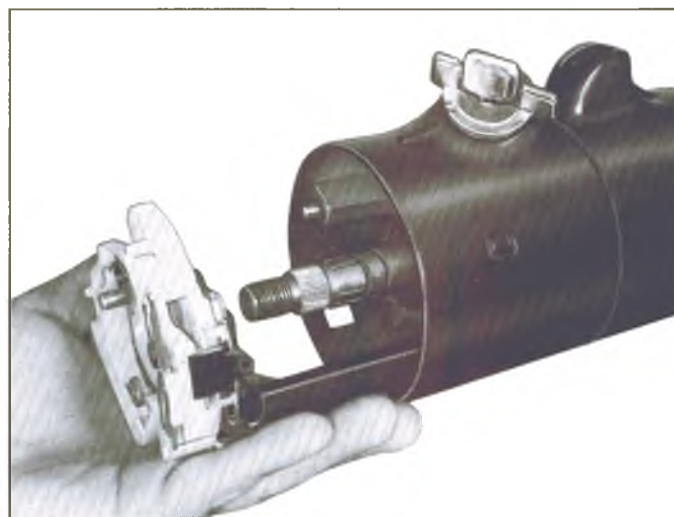

Fig. 51—Removing Directional Signal Switch Assembly
11. Remove the three switch mounting screws and pull the switch straight up, guiding the wiring harness and cover through the column housing (fig. 51).